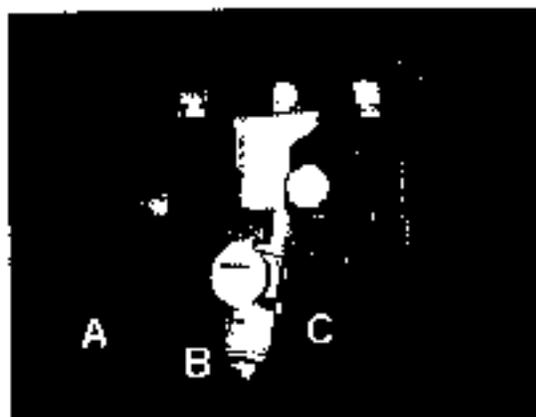

Fig. 3-50 Sockets under platform
- 7 Connect the main power supply to the socket under the platform (fig. 3-50, item A).
If not, connect the loop plug to the corresponding socket (fig. 3-50, item B).
- 9 Using basic machine in single set-up: Make sure that the dummy plug (fig. 3-50, item C) is inserted in the corresponding socket. If not, insert the plug.